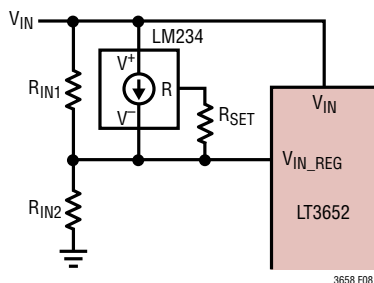

Figure 8. MPPT Temperature Compensation Network
In the circuit shown in figure 8,
As the temperature coefficient for  $V_{MP}$  is similar to that of  $V_{OC}$ , the specified temperature coefficient for  $V_{OC}$  (TC) of -78mV/°C and the specified peak power voltage ( $V_{MP(25^\circ C)}$ ) of 17.6V can be inserted into the equations to calculate the appropriate resistor values for the temperature compensation network in Figure 8. With  $R_{SET}$  equal to 1000Ω, then: